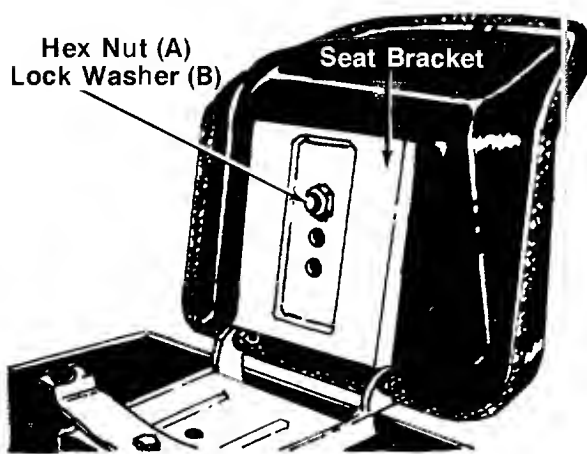

FIGURE 12.
The seat may be adjusted to three different positions. Select the desired seat position and secure the **seat** to the **seat bracket** with **hex nut (A)** and **lock washer (B)**. See figure 12.